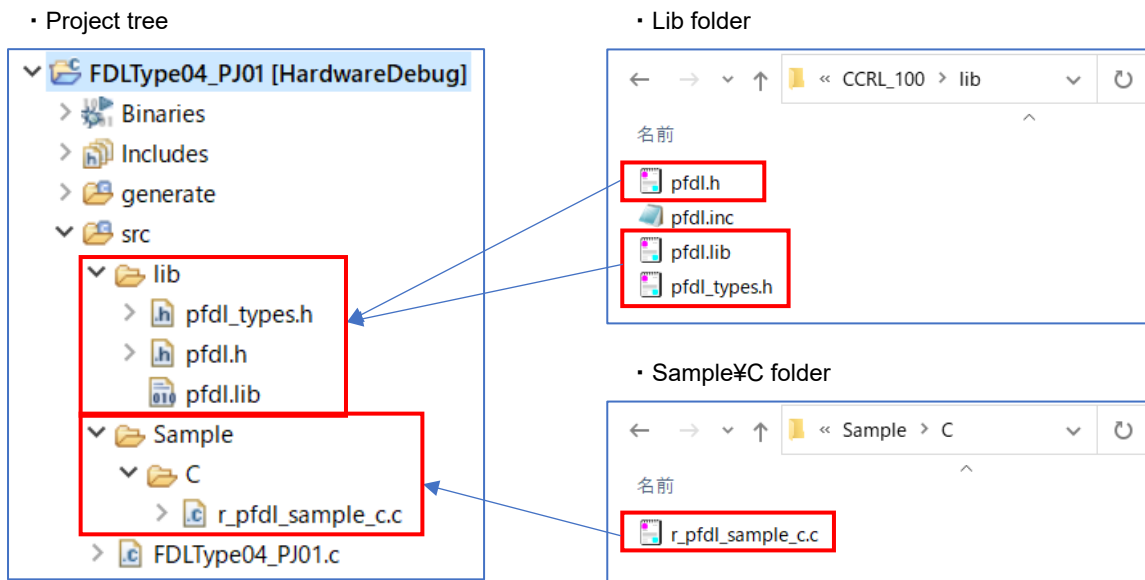

Figure 6-14. Specifying the Source and Include Files (CC-RL)
- CC-RL: Register the data flash library files “pfdl.h”, “pfdl_types.h”, “pfdl.lib” and “r_pfdl_sample_c.c” in the “src” folder output by e² studio. (Figure 6-14)